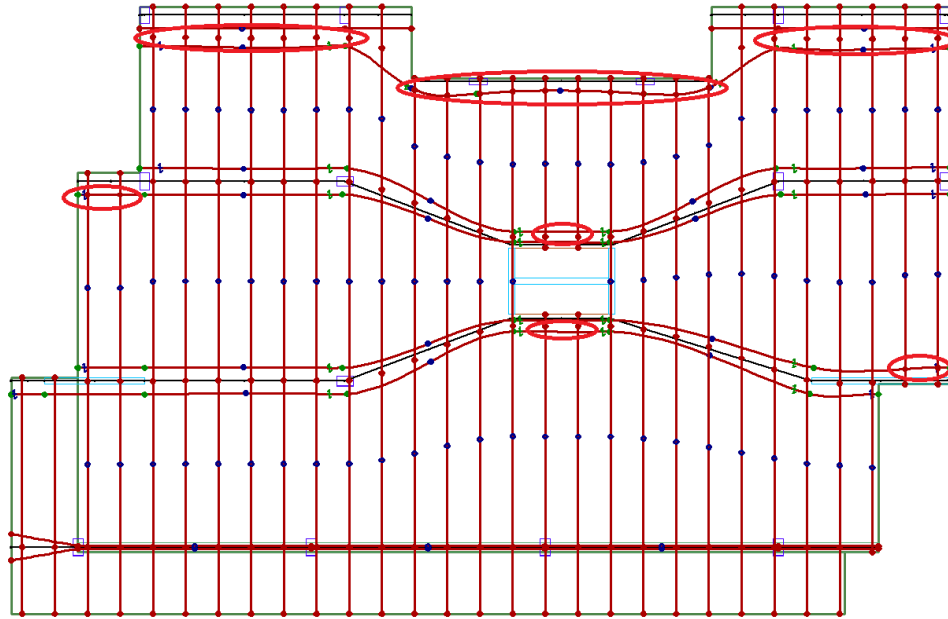

FIGURE 9-75
- Delete all the high points on the distributed tendons which are circled in **FIGURE 9-75** in the same manner.